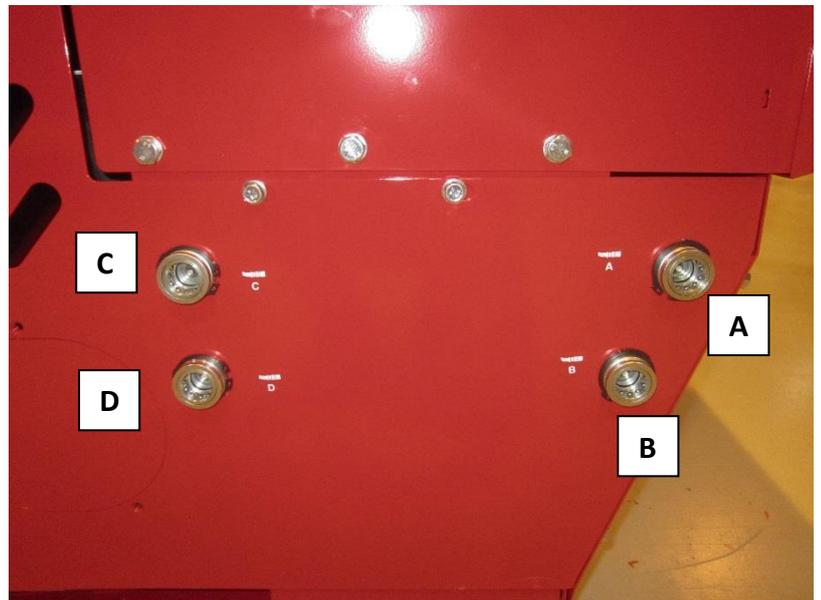
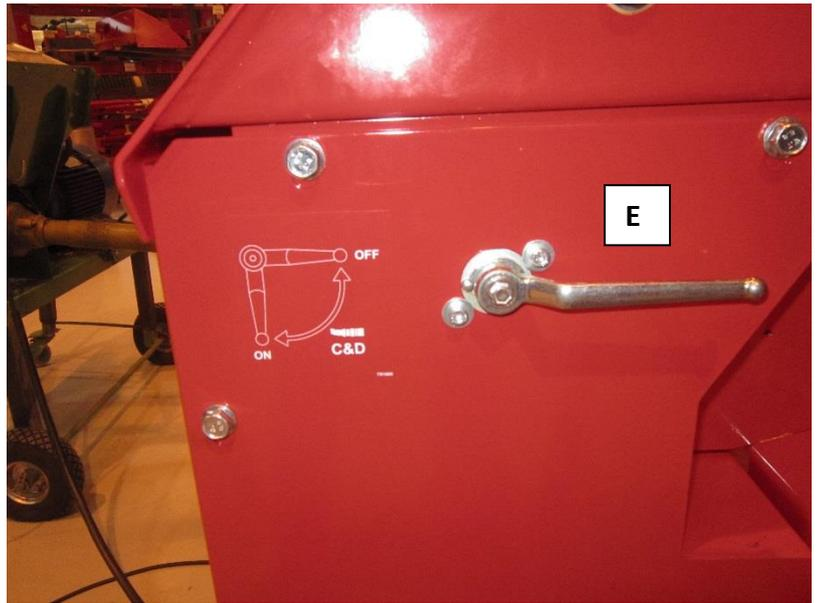

Figure 20.
Figure 21.
Connect the additional hydraulics (e.g. when using the HakkiFeed 381 log lifter) by pushing the auxiliary device's hydraulic hoses into quick couplings A and B in Figure 20 (in Section 4.3.4). The hose with red marking goes to higher quick coupling (also marked with red colour).
3. Open cock E (Figure 21) to allow oil to flow to the quick couplings (Figure 20) C and D.
Note! Cock E must always be turned off (as in Figure 21) whenever quick couplings C and D (Figure 20) are not in use!